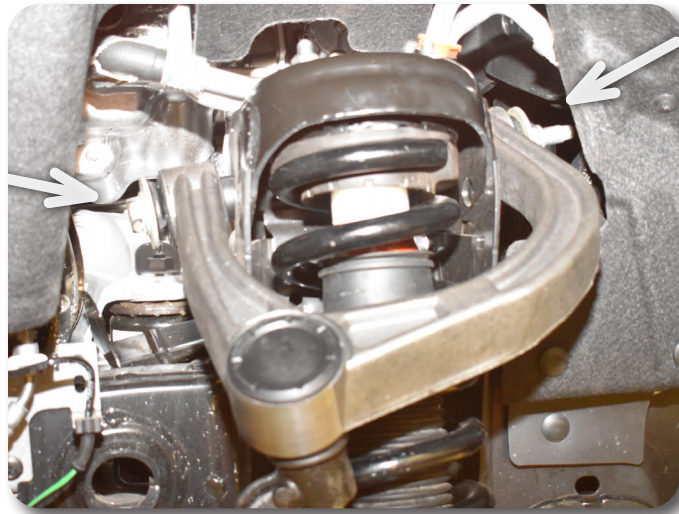

Figure 8
16. Torque upper control arm bushing hardware to 122 ft-lbs Figure 8.